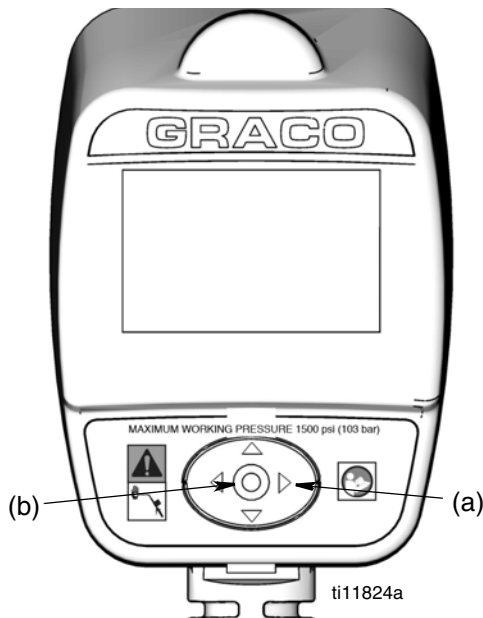
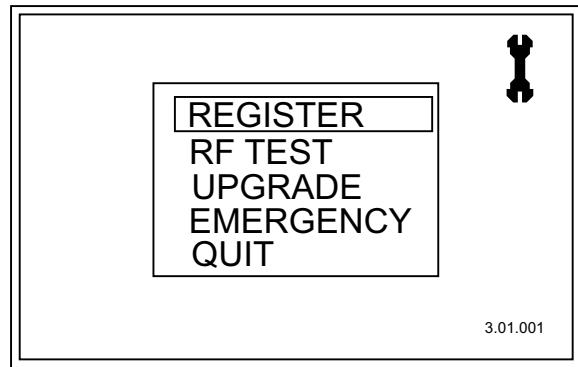

FIG. 3
FIG. 4
## Main Utility Setup Screens (Fig. 4)
1. If you are on a Dispense Screen, to display the Main Utility Screen, first hold down the RIGHT ARROW (a) only, for a few seconds (FIG. 3).
2. Then at the same time, also hold down the center, ENTER button (b) (FIG. 3). Hold both buttons down until the Main Utility Screen shown in FIG. 4 displays.